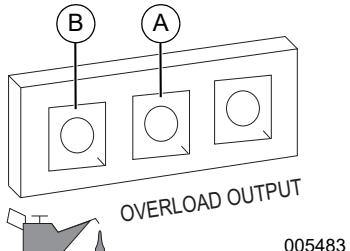

Figure 3-3.Shutdown Fault
IMPORTANT NOTE: Do not overload generator or individual panel receptacles. See **Figure 3-3**. If an overload occurs, the overload LED (A) will illuminate and AC output ceases. To correct, see **Generator Status Lights**. Read **Know Generator Limits** carefully.
The engine is equipped with a low oil level sensor that shuts down the engine automatically when the oil level drops below a specified level to prevent engine damage. See **Figure 3-3** (B). The engine will not run until the oil has been filled to the proper level.